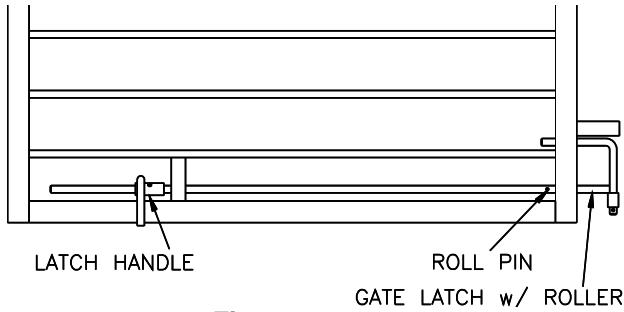

Fig 30 – Gate Assembly
- 55) * Insert one (1) gate latch with roller into each gate and latch handle assembly. Secure with 3/16" diameter roll pin, **Fig 30**.